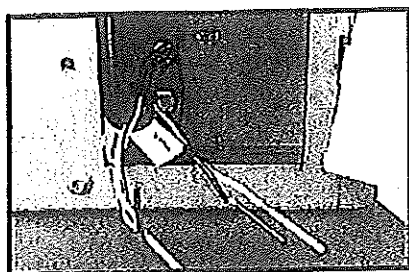
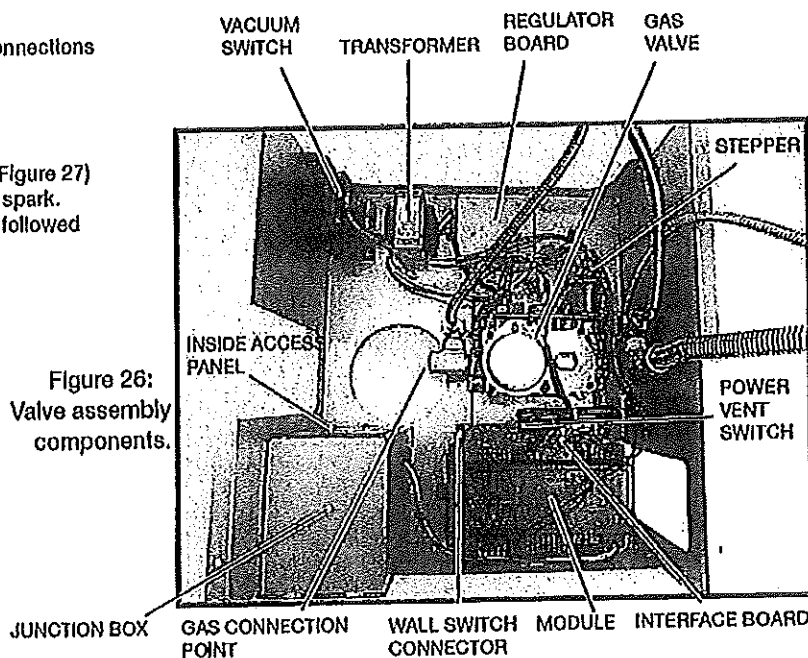
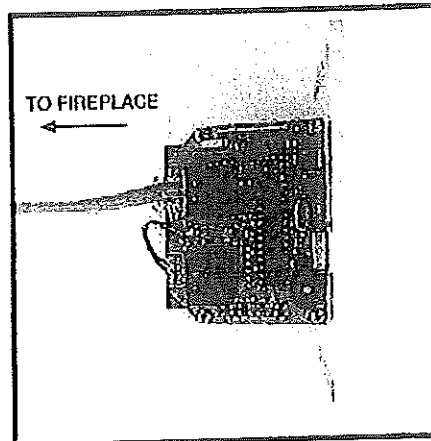

Figure 25: Junction box wiring.
Figure 26: Valve assembly components.
Figure 28: Wall switch - Interface side.
- Connect 110 V. AC electrical supply to the wires installed inside the junction box (Figure 25). The fireplace is rated at 110 volts, 60Hz, 0.25A. The optional power vent kit is rated at 115 volts, 60Hz, 1.8A.
- The electrical wires can be accessed from both inside and outside the junction box by removing one of the two small access panels (Figure 25 and Figure 26).
- Route the wall switch control cable (supplied) as required to the wall switch (Figure 28).
- Attach one end of the wall switch control cable to the wall control (Figure 28), and the other end to the Interface board (Figure 26).
1. Connect the gas supply to the valve (Figure 26).